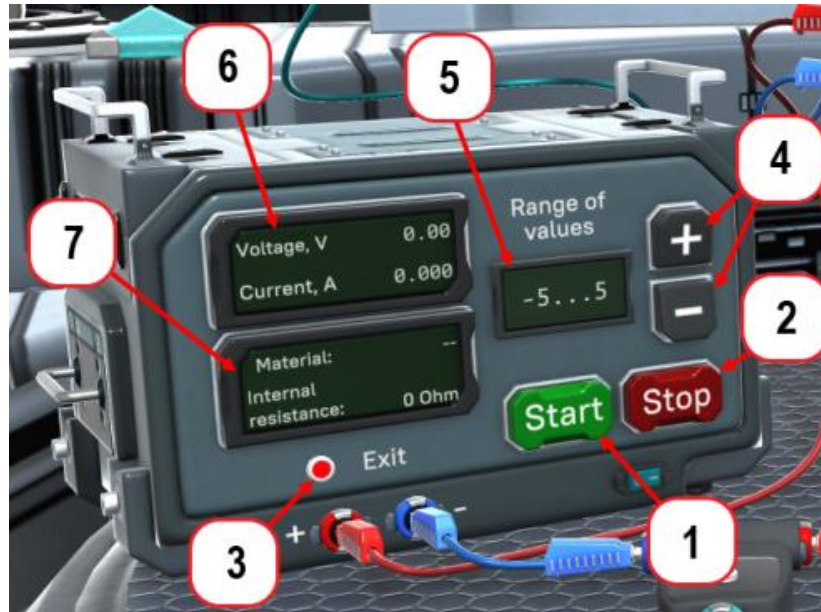

Figure 14 – Power supply
To start the power supply, press the Start button (1 in Figure 14), to stop it, press the Stop button (2). When the source is running, the indicator (3) lights up green, and when it stops, it lights up red.